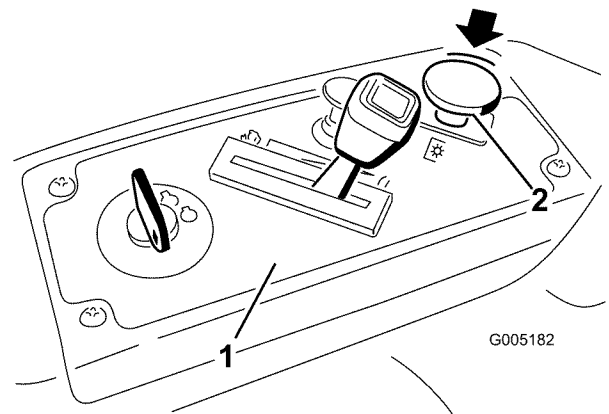

Figure 11
2. Disengage the blades by moving the blade control switch to Off (Figure 11)
1. Disengage the blades by moving the blade control switch to Off (Figure 11).